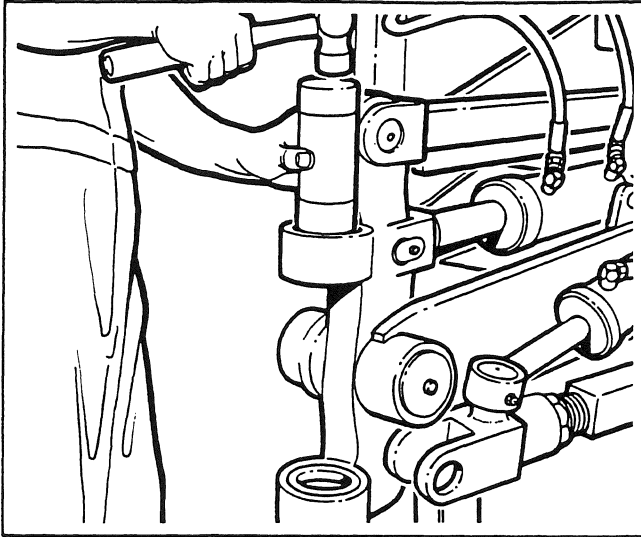

Fig. 11
1. Place the king pin (48) in a freezer or dry ice. Freezing causes the king pin to shrink and makes installation easier.
2. Lubricate the needle roller bearings (46 and 51) with grease. Use a hammer and appropriate tubular drift to install the bearings into the upper and lower bores of the knuckle (55) (see Fig. 11). Lubricate and install a new seal (47) at the top face of the knuckle lower bore. The seal lip should face upward.
3. Use the lifting device to maneuver the spindle/wheel hub assembly into position at the knuckle. Install the thrust bearing (50) in between the spindle and knuckle upper boss.